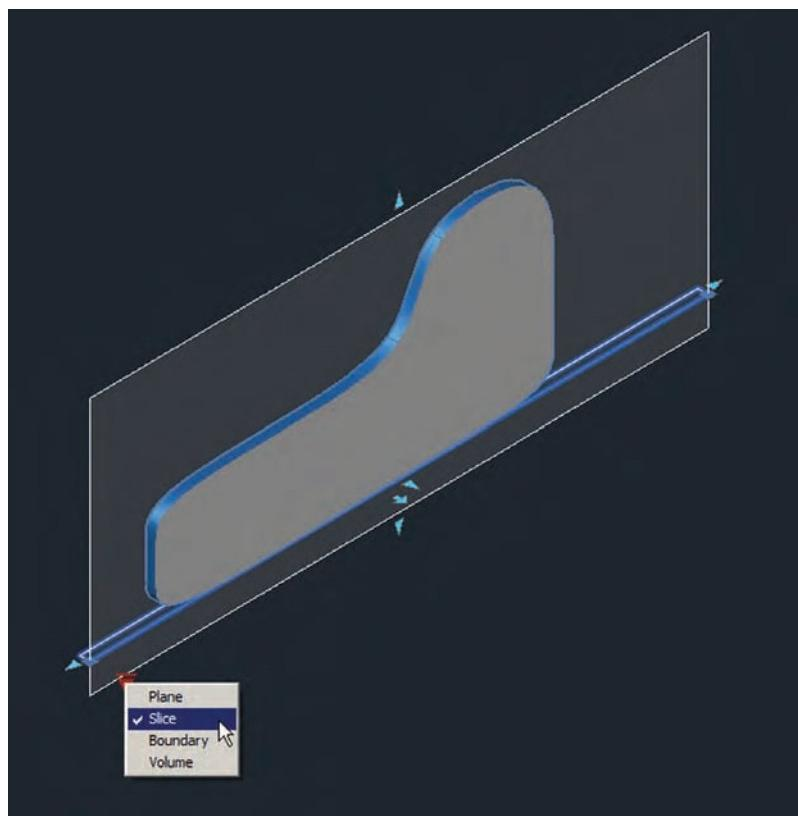

FIGURE 17.35 Configuring a 3D slice
4. Open the downward-facing triangular grip and select Slice from the context menu that appears. Type **0.5** in the Slice Thickness text box in the ribbon's Adjust panel that appears while you have the Section Object selected. A 3D slice is all that is visible of the object (see Figure 17.35).